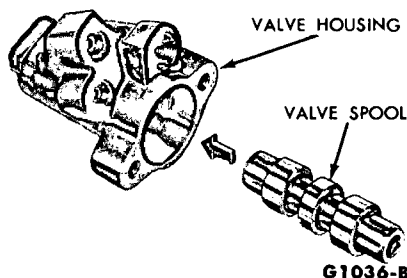

FIG. 14—Inserting Valve Spool
8. Insert the valve spool in the valve housing. **Rotate the spool while inserting it in the housing (Fig. 14).**